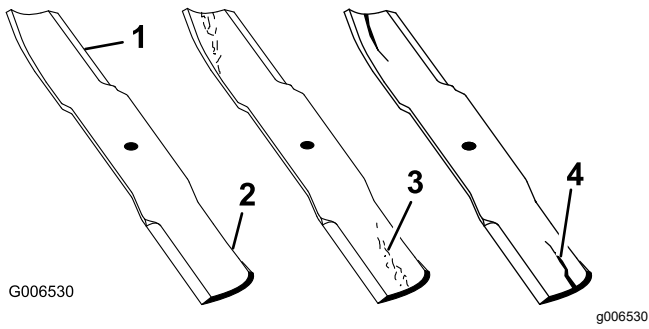

Figure 58
1. Inspect the cutting edges (Figure 58).
4. If you notice any cracks, wear, or a slot forming in this area, immediately install a new blade (Figure 58).